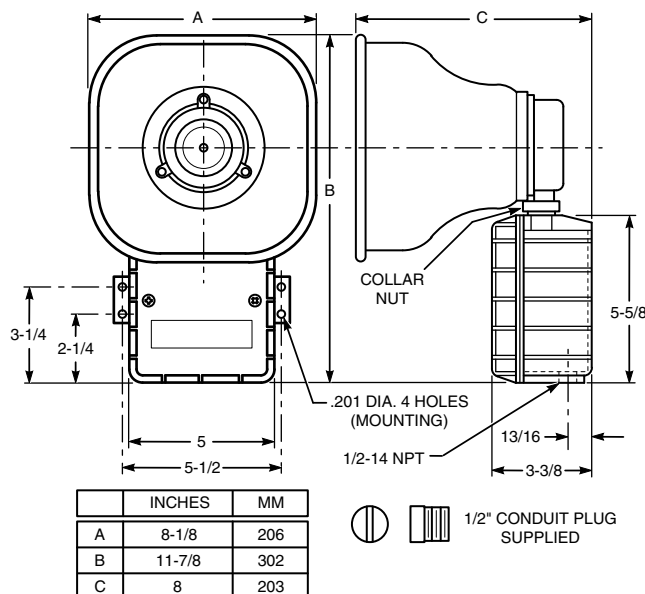

Figure 1: Model ASHH Dimensions
The amplified speaker can be mounted on any relatively flat surface. Conduit connections can be made to two 1/2" threaded openings at the bottom of the housing or to 7/8" knockout in rear of housing. A 1/2" conduit plug is supplied for field installation if one of the 1/2" threaded openings is not utilized. After the mounting location and mounting method have been selected, proceed with the applicable instructions below (see figure 1).
2. Using the mounting holes (four (4) in external mounting bracket) as a template, scribe drill position marks on the mounting surface. See figure 1 for mounting hole locations and dimensions.
5. Reposition speaker projector if necessary to obtain desired sound coverage. Loosen collar nut (see figure 1) and move projector to desired position.